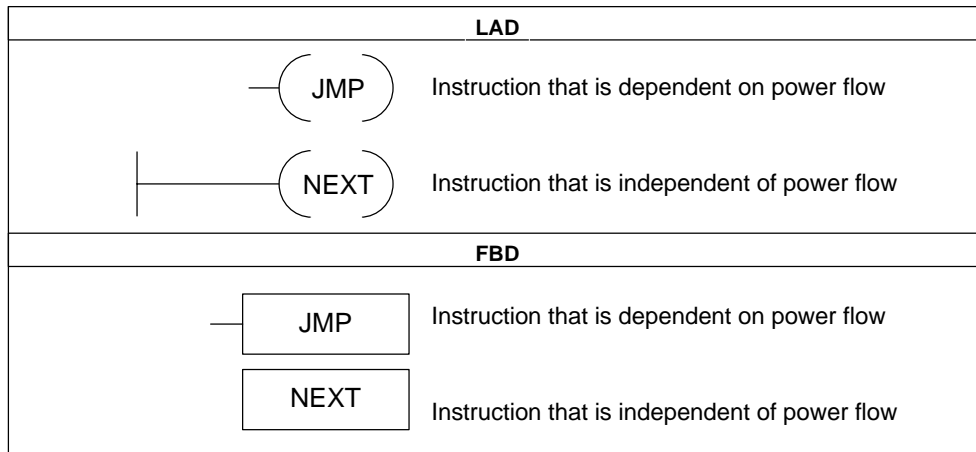

Figure 8-1 LAD Diagram of Conditional and Unconditional Inputs
Conditional/Unconditional Inputs: In LAD and FBD, a box or a coil that is dependent upon power flow is shown without a connection to any element on the left side. A coil or box that is independent of power flow is shown with a connection directly to the left power rail. Both conditional and unconditional inputs are shown in Figure 8-1.
- A contact connected to the power rail indicates that the instruction is independent of powerflow (Figure 8-1).
- Box with no input: A box with no input or output indicates an instruction that is independent of powerflow (Figure 8-1).